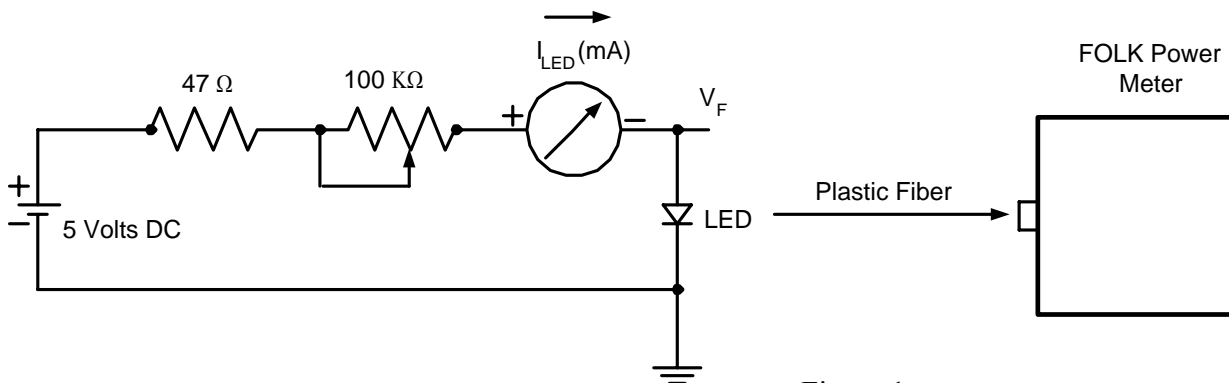

Figure 1
- Make the connections as shown in Figure 1 below:-